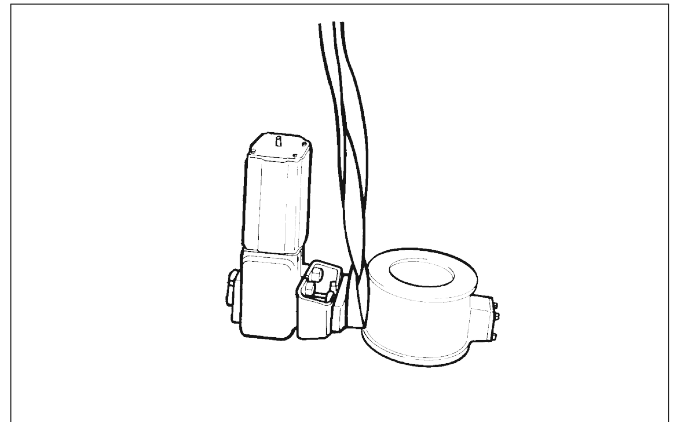

Fig. 6 Lifting the valve
- ☐ Place the hoisting ropes carefully, unscrew the pipe flange bolts and lift the valve from the pipeline using the ropes. Note the correct lifting method. See also Fig. 6.